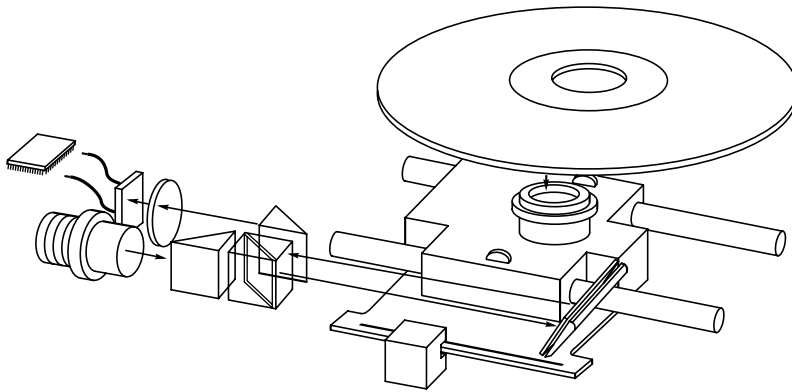

FIG. 17.1 Typical components inside a CD-ROM drive.
1. The *laser diode* (see Figure 17.1) emits a low-energy infrared beam toward a reflecting mirror.